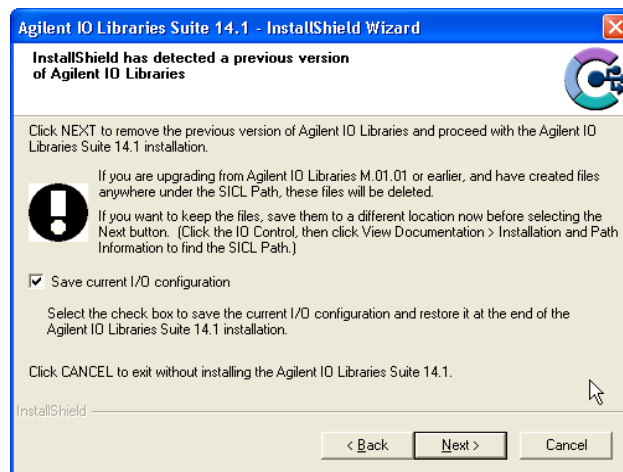

Figure 38 Upgrading from Previous Version of IO Libraries
- 8** If you are upgrading to this version of IO Libraries Suite from a previous version of IO Libraries or IO Libraries Suite, you may see a dialog box similar to Figure 38. Notice that you *must* allow the previous version to be removed if you want to install the current version of IO Libraries Suite.